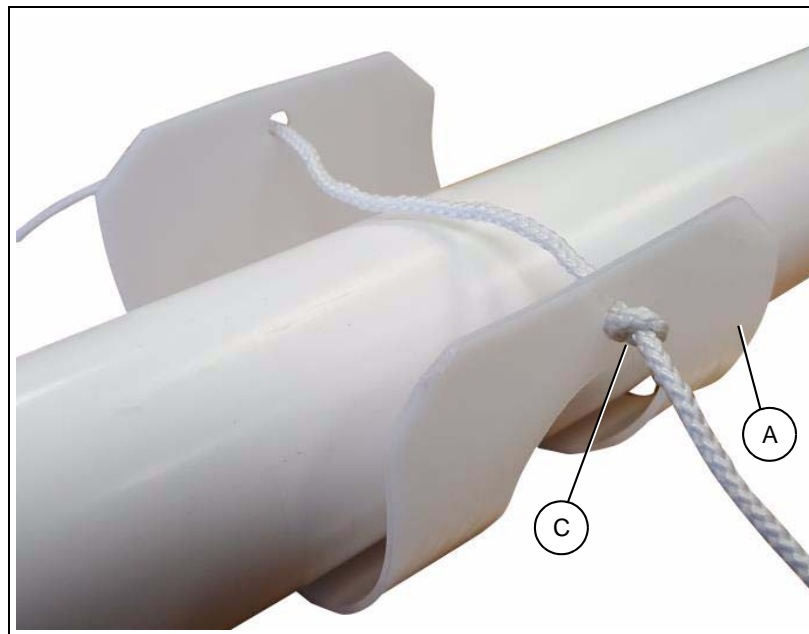

Figure 6E
3. Thread one end of the cord through both holes in the top of the rotary slide (A). (See Figure 6E.)